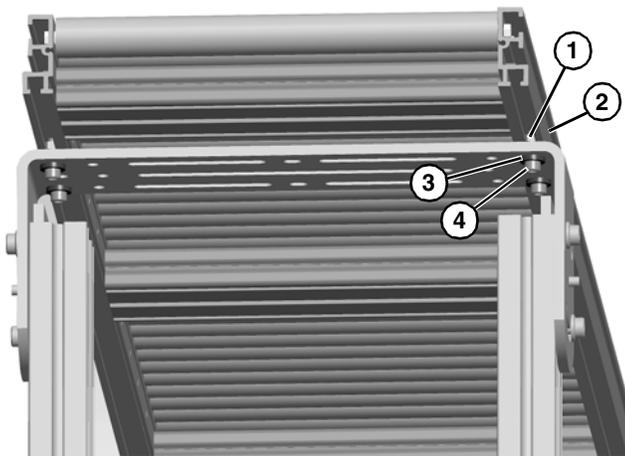

Figure 3
1. Insert mounting nuts (**Figure 3, item 1**) into the bottom t-slots on the conveyor (**Figure 3, item 2**).
2. Attach stands to the bottom of the conveyor frame using four washers (**Figure 3, item 3**) and screws (**Figure 3, item 4**) for each stand.